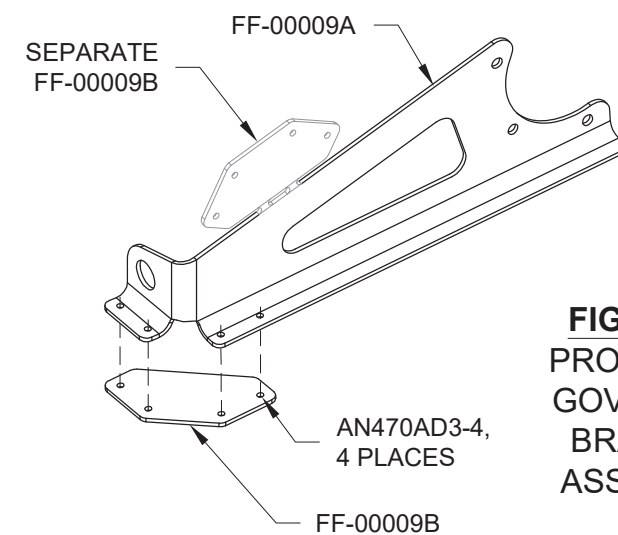

FIGURE 1:
Step 2: Rivet the Propeller Governor Bracket Assembly together as shown in Figure 1.